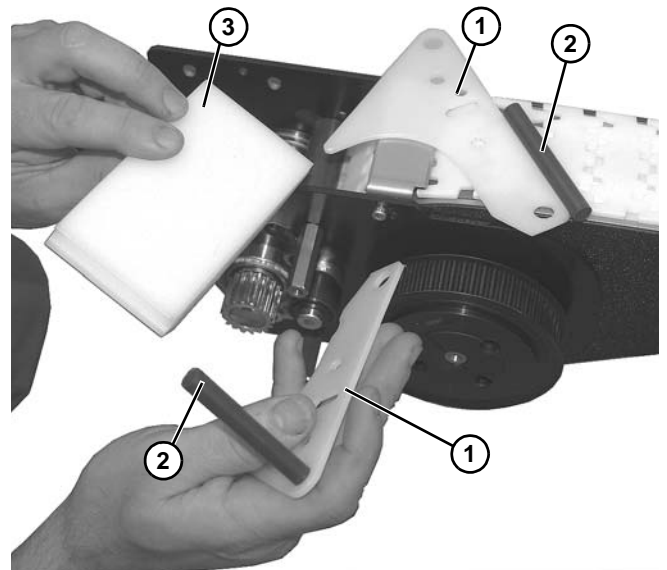

Figure 152
11. Disassemble side guide plates (**Figure 152, item 1**), wear rods (**Figure 152, item 2**), and wear bar (**Figure 152, item 3**). Replace worn components.